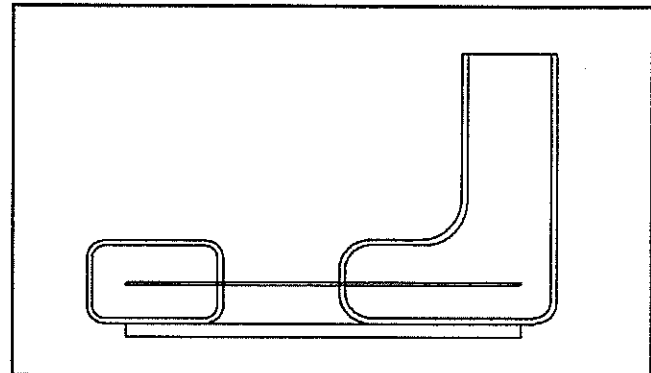

Figure 6 - Rectangular table alignment (Top view) IS917706
27. Position shelf over table stand, align it with corner table using a straight edge as illustrated in figure 6, then fix it to table stand using (4) #10 x 1" wood screws.